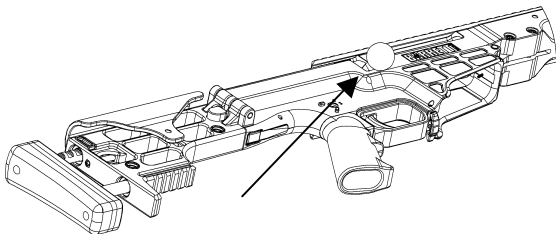

Figure 20.
4. Turn the rifle over and inspect the location of the bolt handle. The bottom of the bolt handle should be making contact with the receiver. (*Figure 20.*)